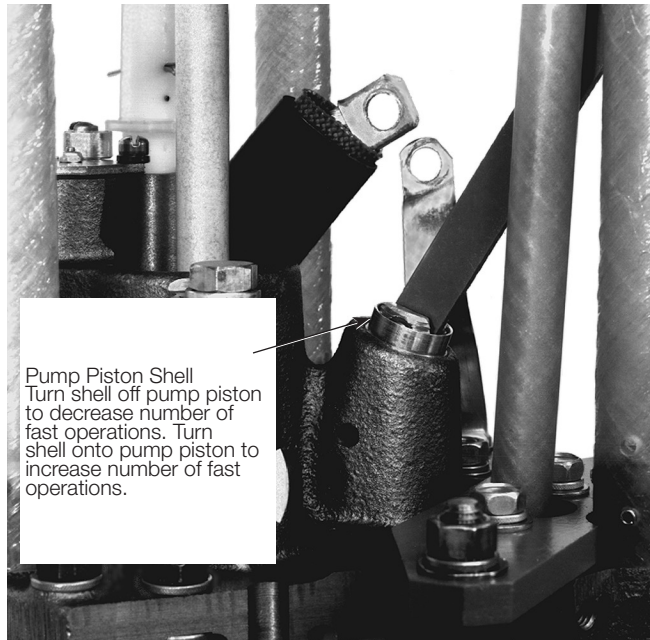

Figure 24. Pump piston shell adjustment
- B. If recloser is performing too many fast operations, turn piston shell counterclockwise a little (off the pump piston) see Figure 24. Repeat test.
- C. If recloser is performing too few fast operations, turn piston shell clockwise a little (onto the pump piston) see Figure 24. Repeat test.